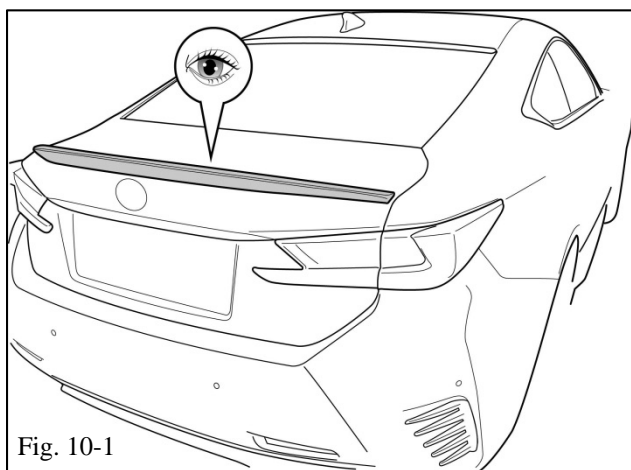

Fig. 10-1
- (a) Check the rear spoiler for proper fitment (Fig. 10-1).